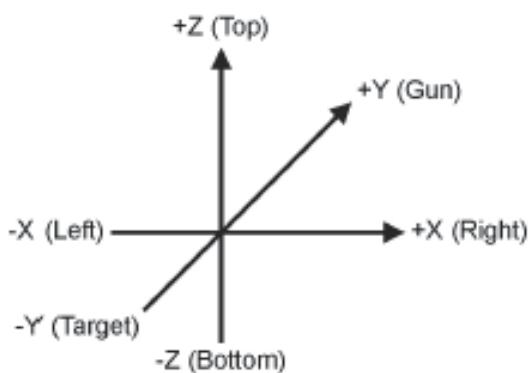

Figure 2: Correspondence between IEC coordinates and PTW coordinates
- Note: Usually, in treatment planning systems coordinates are defined according to IEC standard. When entering these values, refer to the definition of the coordinate system in the standard IEC 61217 and Fig. 2 (see below).*